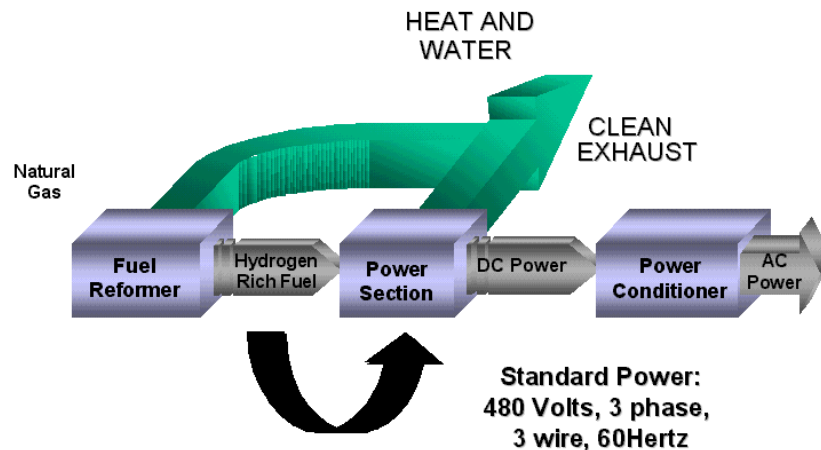

Figure 2-7 Process Schematic of a Fuel Cell
- 2) **Power Section** - Hydrogen is reacted electrochemically with oxygen to produce electric power in the form of direct current (DC)
- 3) **Inverter** - Converts the DC to electric utility grade alternating current (AC)
- *Figure 2-7* shows a process schematic of a fuel cell system.